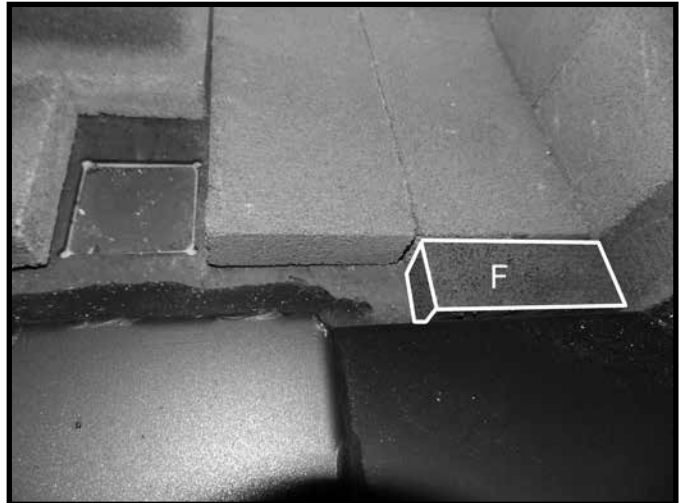
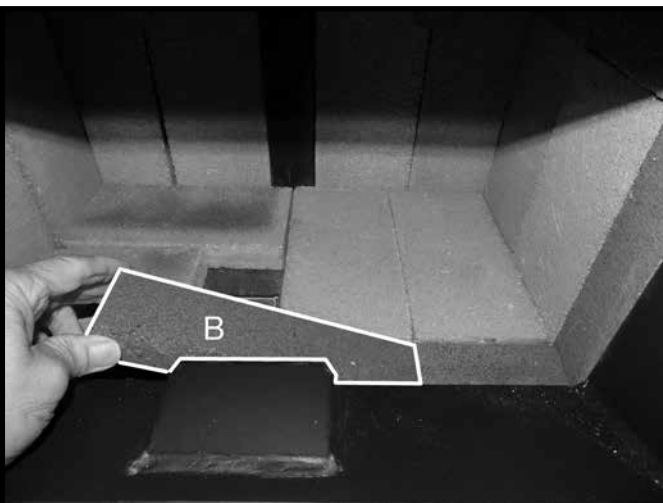

Figure 35: Short, narrow brick installed in front row.
Figure 36: Long narrow center brick in front row.
10. Place a short narrow "F" brick against the front right side of the floor (Figure 35) followed by a longer "B" brick in the center of the front row (Figure 36). Finish with the last "F" brick placed against the left side front row (Figure 37). Note: There will be a gap remaining behind the ash dump.